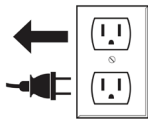

**FIGURE 18**
25. Rotate rear cord wrap 180 degrees clockwise to return to original position. **FIGURE 18.**